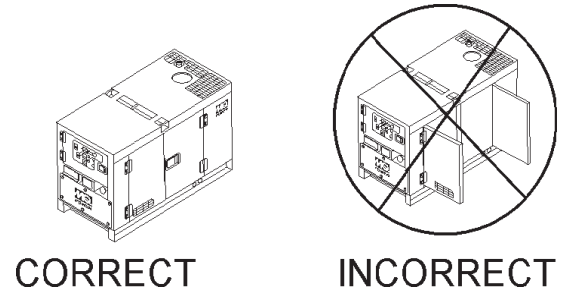

Figure 40. Engine Enclosure Doors
1. Be sure and place the **main, G.F.C.I.** and **aux.** circuit breakers (Figure 40) in the **OFF** position prior to starting the engine.
3. Close all engine enclosure doors (Figure 40).